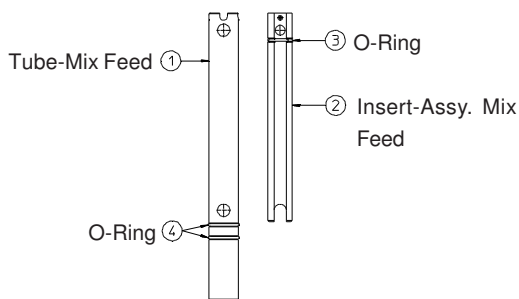

Figure 3
2. Place an empty container under the dispense head. Install the mix feed tube assembly (see figure 3) in the "closed" position into the mix feed drain in the hopper (see figure 4). Pour a minimum of 2-1/2 gallons (9.5 liters) of mix into the hopper. Hold plunger open and remove mix feed tube and allow mix to push out the sanitizer. When pure mix flows from the dispense head close the plunger. Install the mix feed tube into the mix feed hopper drain in the "open" position as shown in figure 4 and place the selector switch to the "Auto" position.